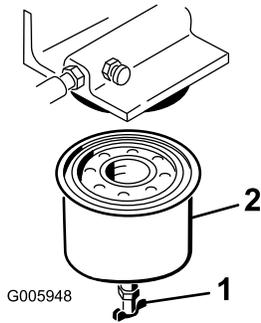

Figure 32
4. Open the drain valve (Figure 32) and drain the fuel from the fuel filter into a suitable container and dispose of it properly.
5. Remove the fuel filter with a filter wrench (Figure 32).